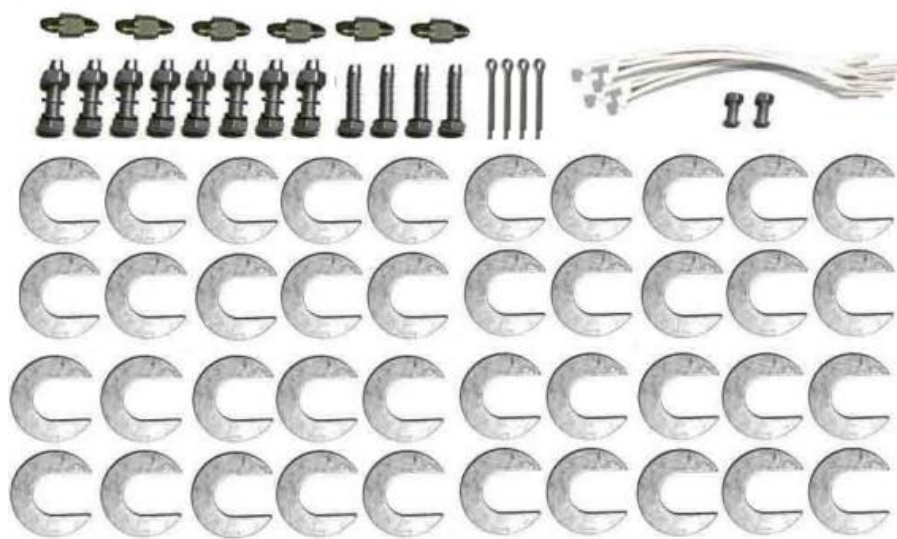

Fig. 20
4.2 Parts bag for flush mount installation (See Fig.19, Fig.20)